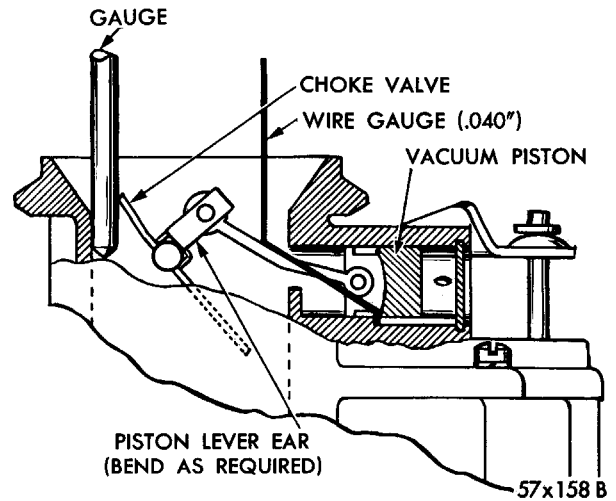

Fig. 27—Vacuum Kick Adjustment
paper clip or a piece of .040 inch diameter wire into the shape shown in Figure 27. Insert the bent end into the slot at the bottom of the vacuum piston bore, as shown in Figure 27.
(2) Apply a light closing pressure against the choke valve.
(3) With the wire held in place between the piston and the end of slot, it should be possible to insert a $1\frac{1}{32}$ " drill for automatic transmission or $3\frac{1}{64}$ " drill for manual transmission between the choke valve and wall of air horn. (See Figure 27).
(4) If adjustment is necessary, bend the ear on the choke piston lever until correct clearance has been obtained.